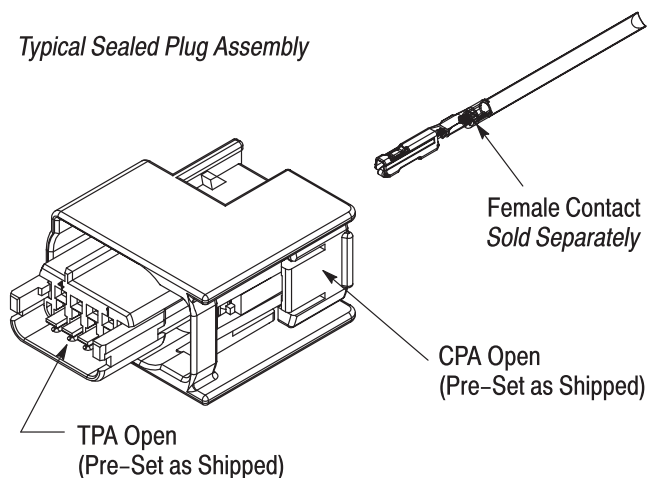

Figure 2
1. Insert a terminated contact by grasping the wire approximately 20 mm behind the insulation crimp and pushing it straight in to the appropriate circuit cavity as far as it will go. Refer to Figure 2.